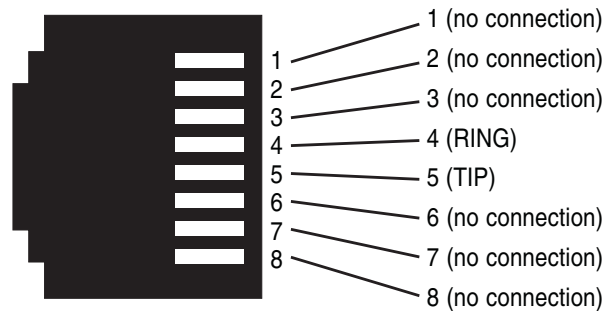

Figure 3 LB200A-R4(RJ-45) twisted pair line interface.
2. The LB200A-R4 is equipped with an RJ-45 interface jack (Figure 3)
The RJ-45 connector on the LB200A-R4's twisted pair interface is polarity insensitive and is wired for a two-wire interface. The signal/pin relationship is shown in Figure 3.